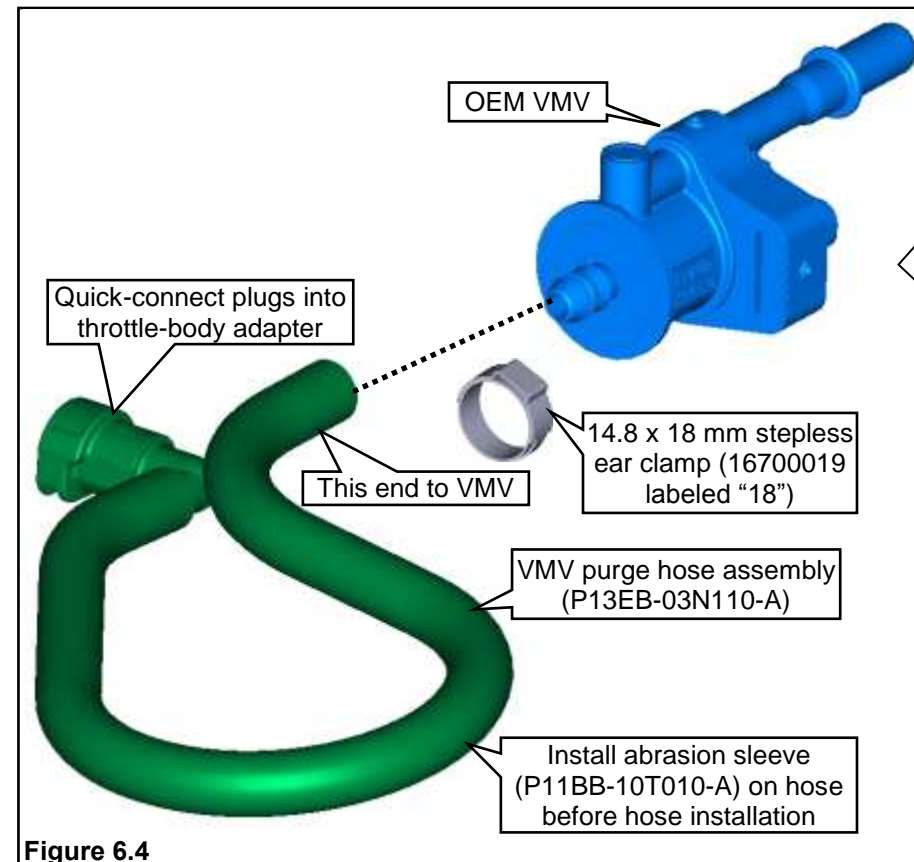

Figure 6.4
7. Slide the abrasion sleeve onto the VMV engine purge hose. Connect the VMV engine purge hose assembly to the VMV and secure with a stepless ear clamp (labeled "18"). **Note:** This clamp should NOT be tightened until after the orientation between the VMV and hose is correct with the assembly installed. **Figure 6.4.**